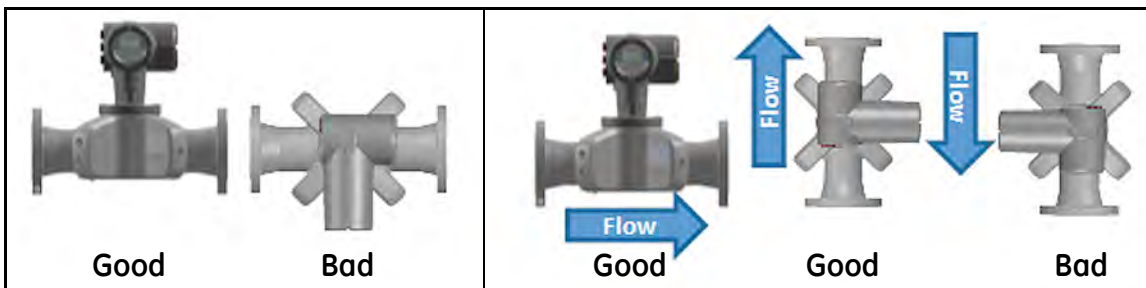

Figure 7: Good and Bad Transducer Locations
- Locate the transducers on a common axial plane along the pipe (see *Figure 7* below). Locate the transducers on the side of the pipe, rather than the top or bottom, since the top of the pipe tends to accumulate gas and the bottom tends to accumulate sediment. Either condition will cause increased attenuation of the ultrasonic signal. There is no similar restriction with vertical pipes as long as the flow of fluids is upward to prevent free falling of fluids or a less than full pipe.